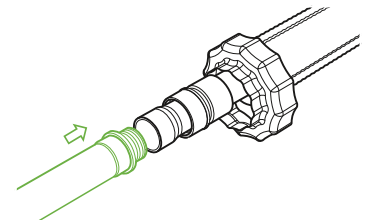

Fig. B10.2.6
7. Insert the welded inner steel coupler into the expanded service pipe (Fig. B10.2.6).